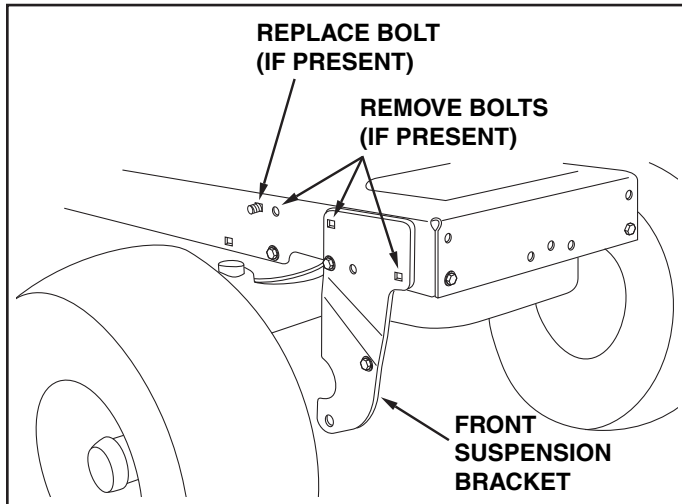

FIGURE 20 RIGHT SIDE VIEW
If your tractor resembles figure 20, go to step 21.
STEP 21: (SEE FIGURE 20)
- If a bolt is present in the fourth hole, replace it with a 5/16" x 1" carriage bolt (N) without a nut. The bracket fastened to inside of frame must remain in place.